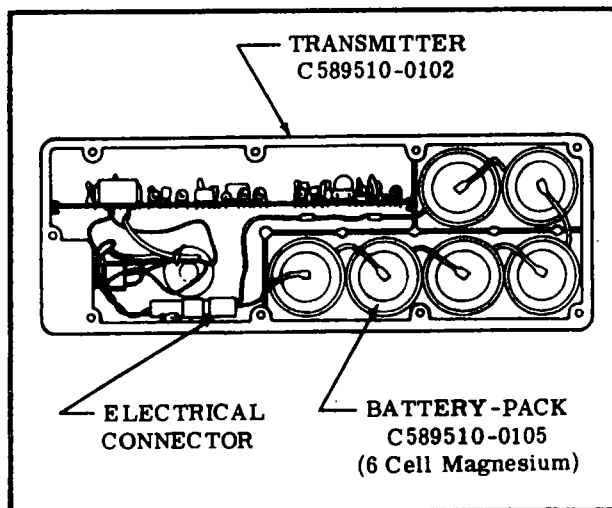

Figure 16-15. Magnesium 6 Cell Battery-Pack Installation
16-63. DESCRIPTION. Several types of Emergency Locator Transmitters (ELT) have been installed in Cessna aircraft. Each of the ELT's is a self-contained, solid state unit, having its own power supply, with an external mounted antenna. The transmitters are designed to transmit simultaneously on dual emergency frequencies of 121.5 and 243.0 Megahertz. All units were mounted in the tailcone, aft of the baggage curtain on the right hand side. The transmitters were designed to provide a broadcast tone that is audio modulated in a swept manner over the range of 1600 to 300 Hz in a distinct, easily recognizable distress signal for reception by search and rescue personnel and others monitoring the emergency frequencies. Power is supplied to the transmitter by a battery-pack which has the service life of the batteries placarded on the batteries and also on the outside end of the transmitter. ELT's thru early 1974 models, were equipped with a battery-pack containing six magnesium "D" size dry cell batteries wired in series. (See figure 16-15) Mid 1974 thru early 1975, ELT's are equipped with a battery-pack containing four "in-line" lithium "D" size batteries wired in series. Early 1975 and on ELT's are equipped with a battery-pack containing four lithium "D" size batteries which are stacked in two's (See fig. 16-16). The ELT exhibits line of sight transmission characteristics which correspond approximately to 100 miles at a search altitude of 10,000 feet. When battery inspection and replacement schedules are adhered to, the transmitter will broadcast an emergency signal at rated power (75 MW-minimum), for a continuous period of time as listed in the following table.
**16-68. REMOVAL AND INSTALLATION OF MAGNESIUM SIX (6) CELL BATTERY-PACK. (Refer to figure 16-15.)**